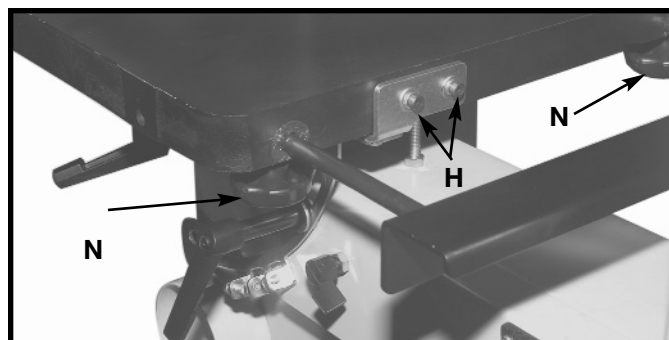

Fig. 8A
10. Replace the two screws, flat washers, and lockwashers (H) Fig. 8A, that were removed in **STEP 6** to attach the trunnion to the table. Tighten using the 5mm hex wrench
12. Thread the two table extension lock knobs (N) Fig. 8A, into the bottom of the table.